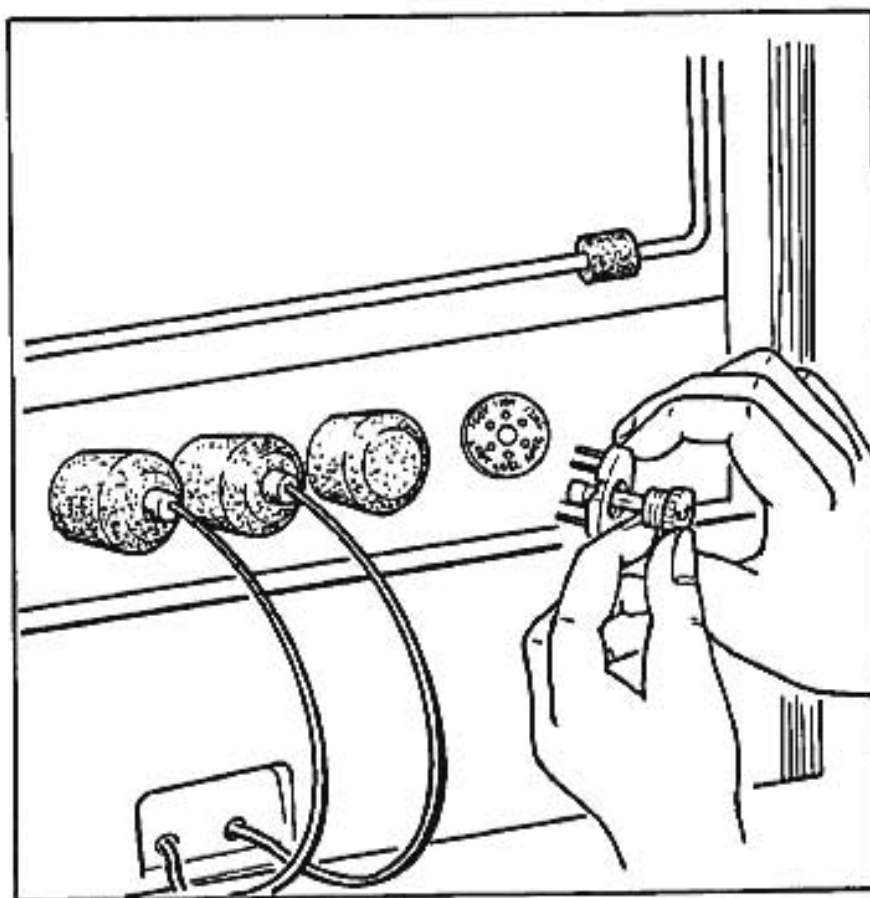

Fig. 9-1
1. Changing the LINE Voltages (See Fig. 9-1)